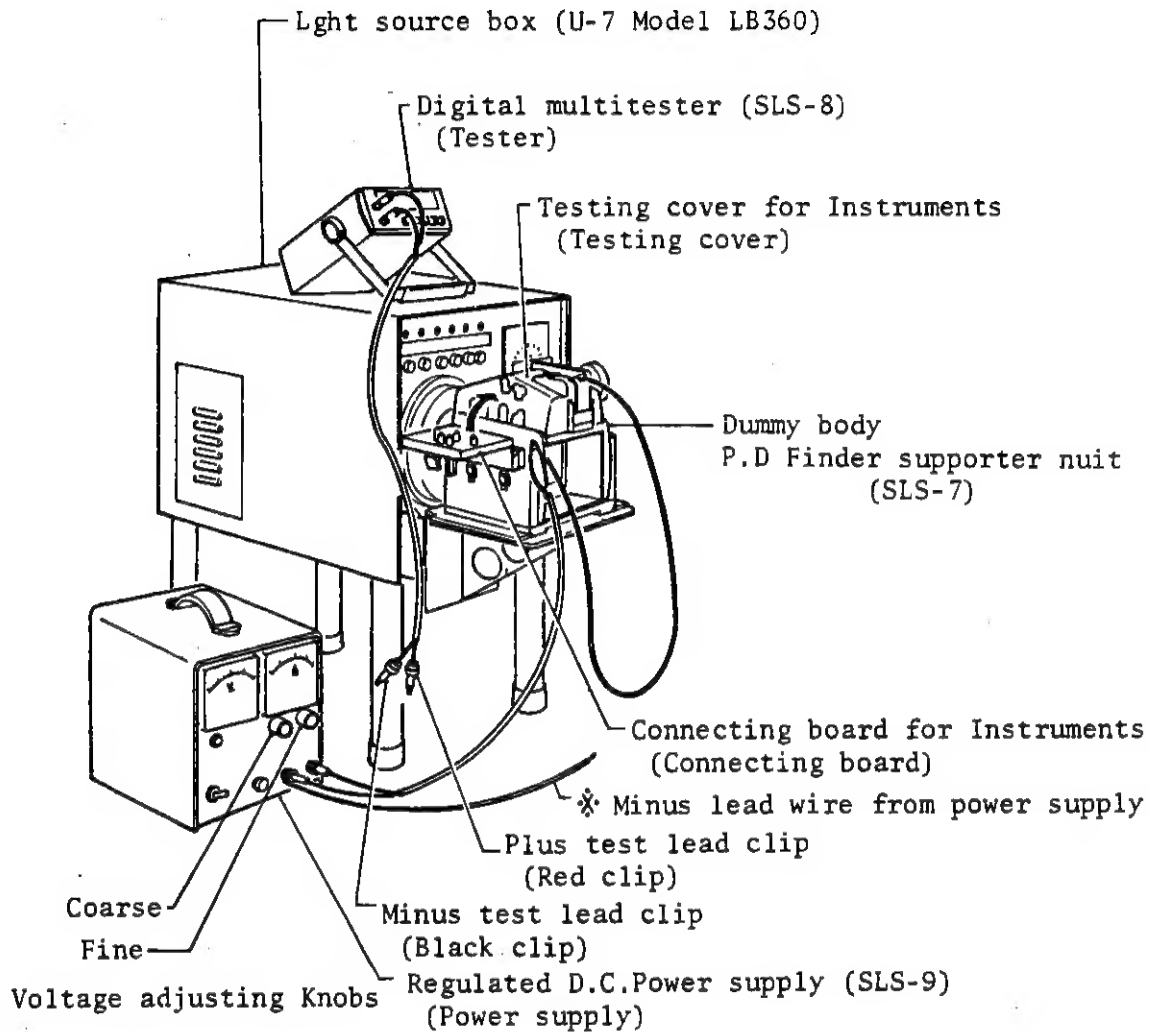

Fig.1
- A. Set SLS-7 Dummy body, SLS-8 Digital multi tester and SLS-9 Regulated D.C. power supply to U-7 Light source box and EE-tester and wire those cords as shown in the Fig. 1.